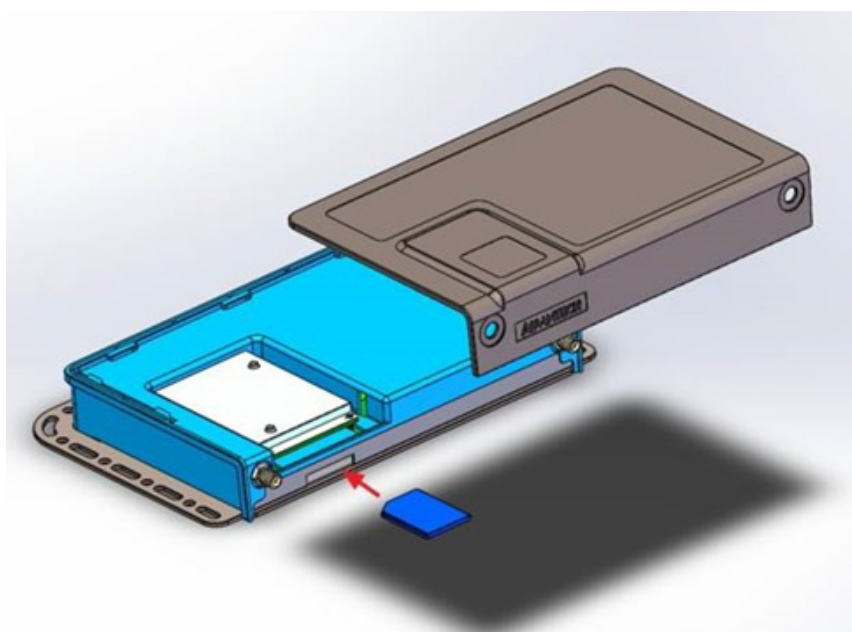

Figure 2.3 WISE-3310 SD Card Installation
2. Insert SD Card directly into the WISE-3310 SD slot, as Figure 2.3.